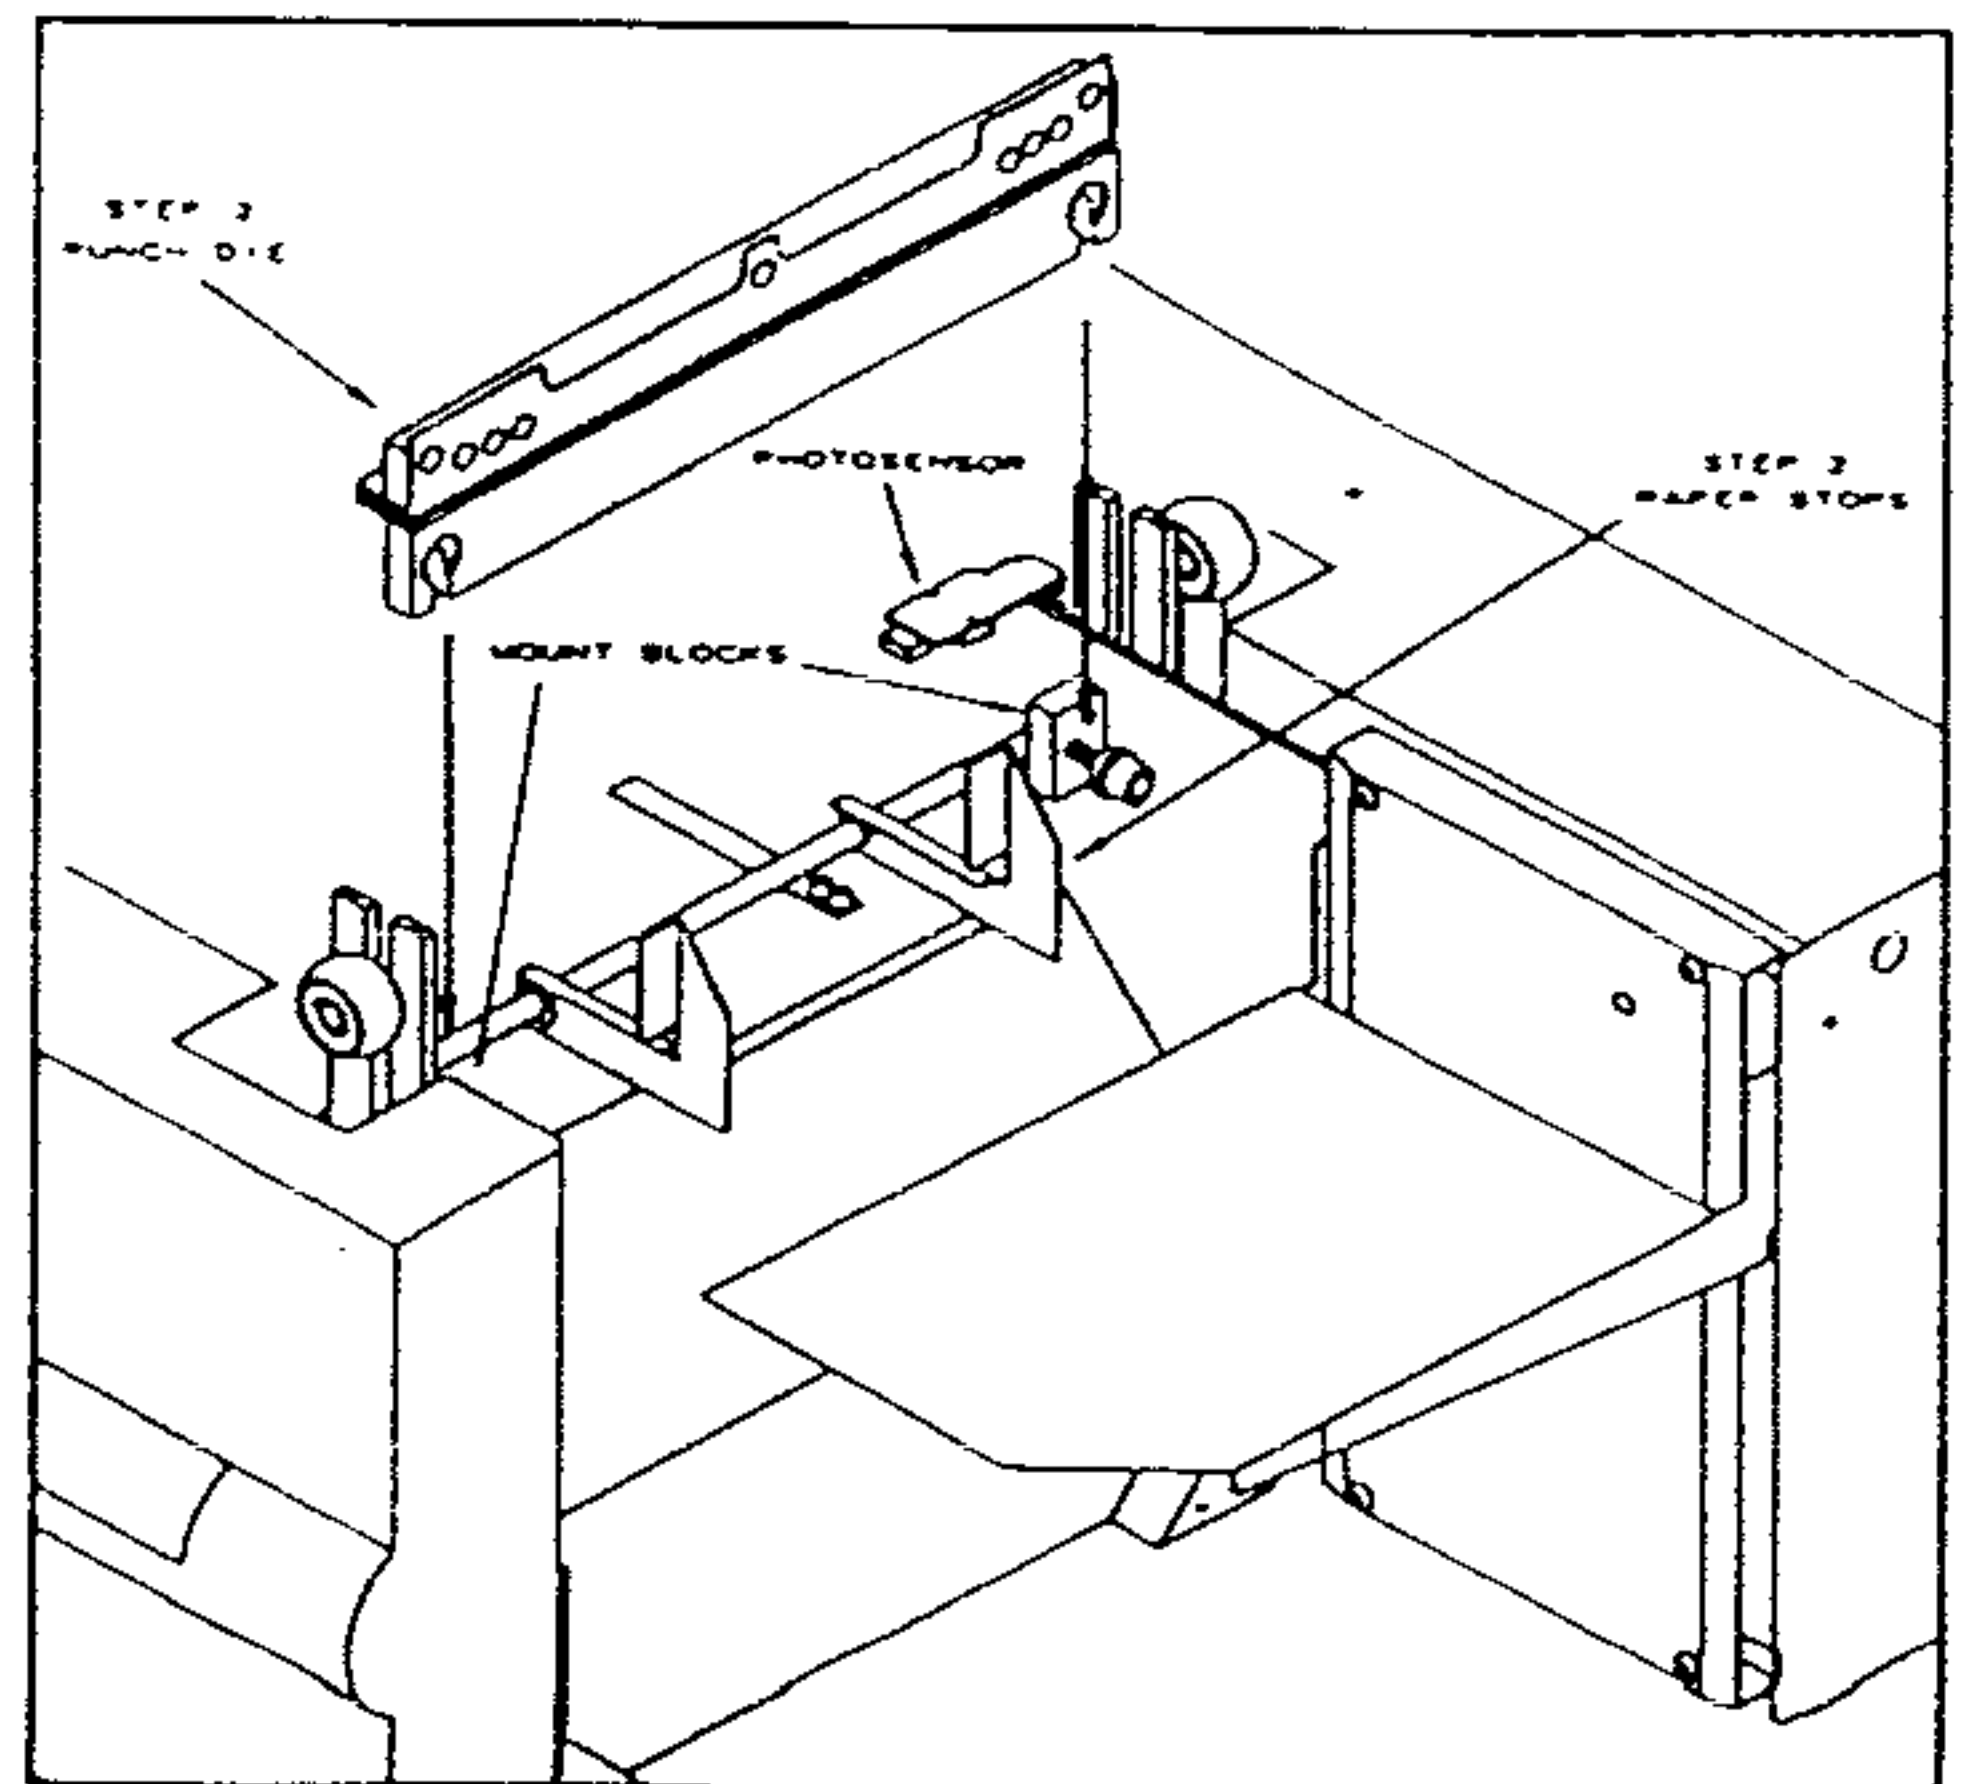

Figure 19
(Refer to Figures 19 to 24)
2. While holding the paper stops slightly toward the Output Stacker place the punch die into the AP-1. Tip it slightly as needed to clear the photo sensor. Position the die so that the slots in the bottom of it rest on the two (2) 1" Allen head screws threaded into the mount blocks. The precision flat washer and standard washer must be on the outside of the slot as indicated in the illustration. (See Figure 19)